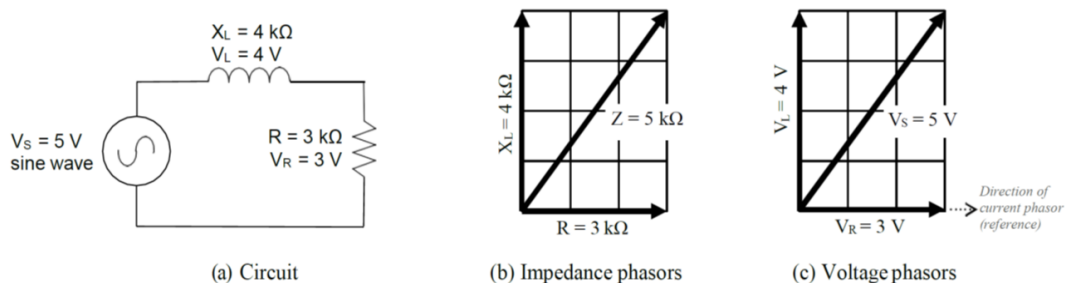

Figure 4.2: Phasor Diagram
Consider the series RL circuit shown in Figure 4.2(a). Graphical representations for the impedance phasors are shown in Figure 4.2(b). As with the series RC circuit, the total impedance of the series RL circuit is obtained by the vector sum of the impedance phasors. (Because the vectors are in the complex plane, this summation can also be done equivalently by summing the complex numbers.)
In this example, 5V are applied and the total impedance is 5 kΩ, so the total current is 1.0 mA. Because the current is the same in all components of the series circuit, we use its direction through the resistor for the phase reference direction. Multiplying the impedance phasors by the current gives the voltage phasors, as shown in Figure 4.2(c).
9. Using the values listed in the table, draw a diagram of the impedance phasors and a second diagram of the voltage phasors, as illustrated in Figure 4.2 of the Background section of this laboratory experiment.